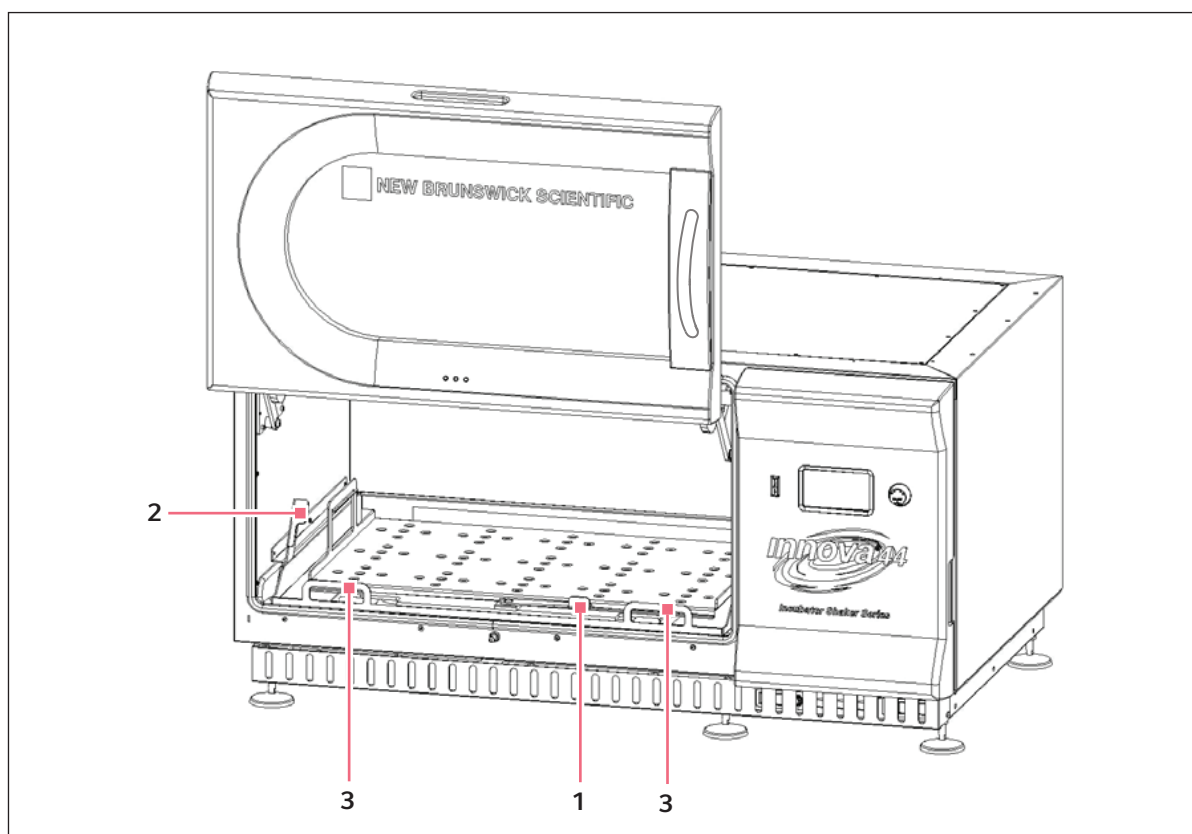

Fig. 8-2: Install Slide-Out Platform
1. With reference to figure below (see Fig. 8-2 on p. 40), place the platform on the subplatform, making sure the two slots in the back of the platform are inserted under the subplatform's blocks in the back, and the slide-out tray handles are at the front edge, facing up.